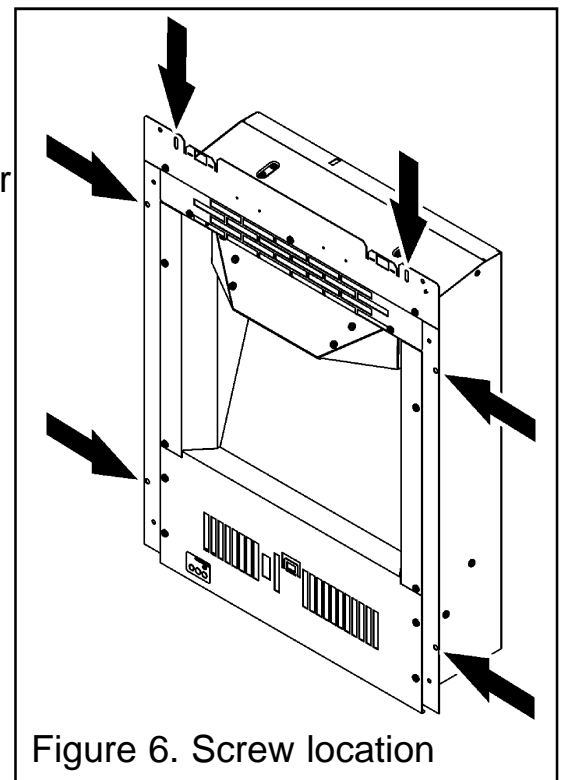

Figure 6. Screw location
2. There are two slotted holes in the top of the heater and four holes in the side flanges (See figure 6). We recommend the use of two upper holes and two lower holes. Mark through the required holes so that their position is clear when the heater is removed.